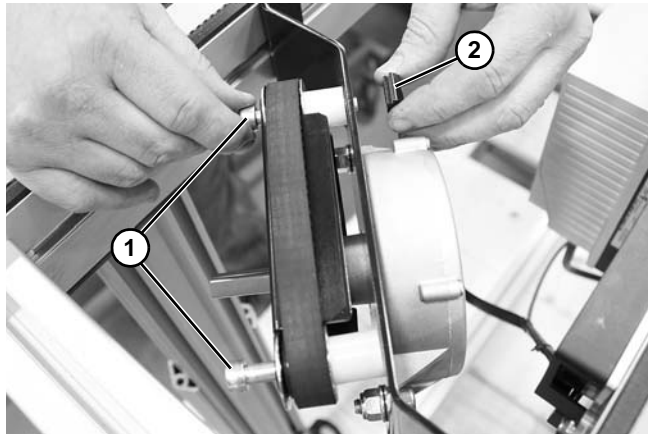

Figure 130
1. Loosen and remove socket head screws (**Figure 130, item 1**) from cam follower nuts (**Figure 130, item 2**).